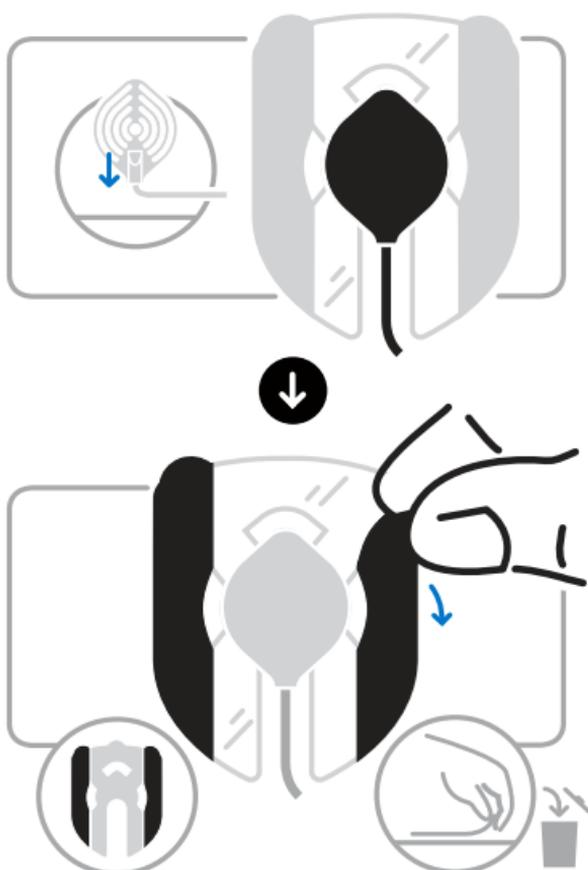

fig.3
- 3 Place the actuator on the exposed adhesive at the centre of the patch, with the metal transducer facing up and the wire aligned with the open notch in the patch. (fig.3)